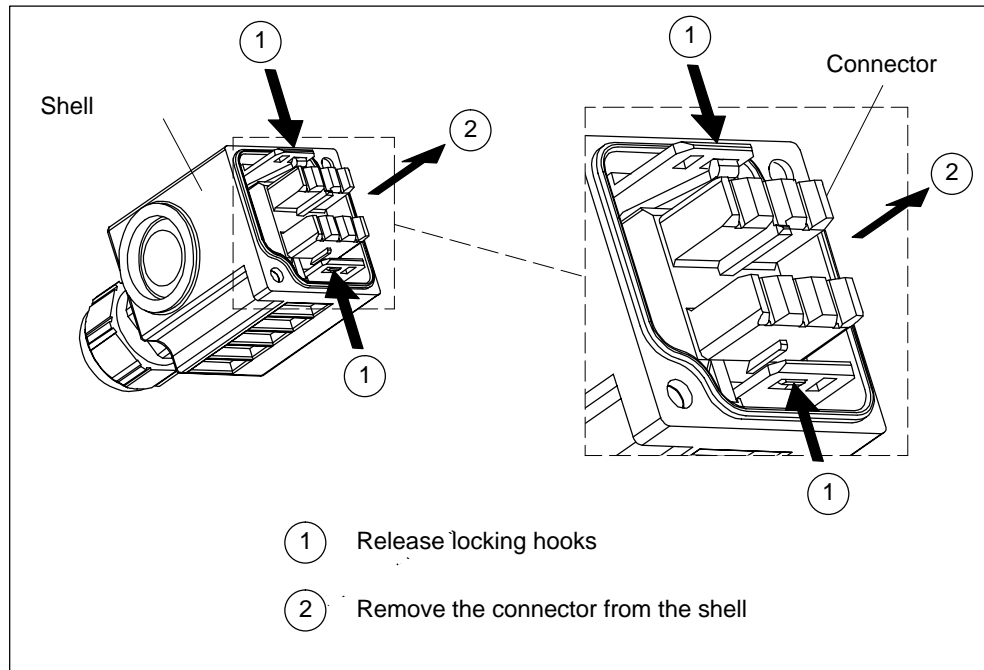

Figure 4-8 Removing the connector from the shell
1. Release the two locking hooks as illustrated in Figure 4-8 using a pointed implement.